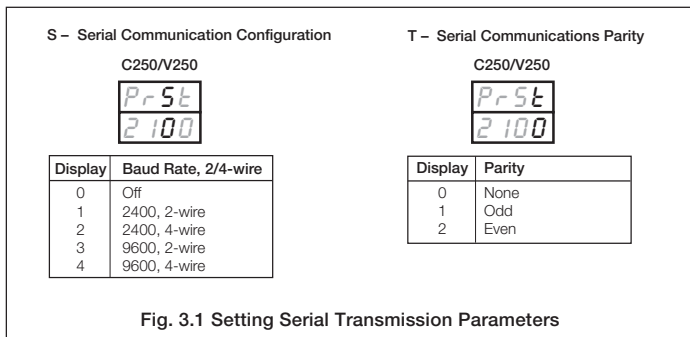

Fig. 3.1 Setting Serial Transmission Parameters
3.2 Setting the Serial Transmission Parameters – Fig. 3.1
Fig. 3.1 shows the display readouts and options available when defining the serial transmission rate and bit parity for COMMANDER 250 and V250 instruments. Further detail on the procedure required to set each parameter are shown in Section 4.3.4 of the relevant *User Guide*.